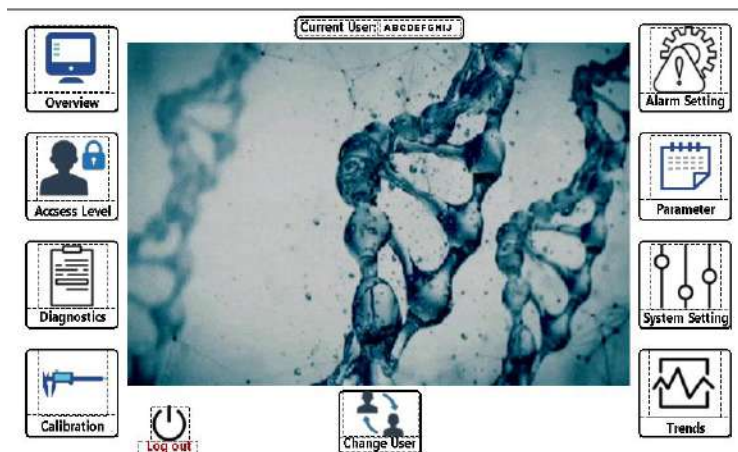

Fig. 2
- **Main Dashboard (Fig. 2):**